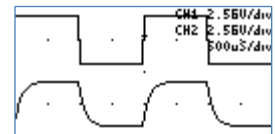

Figure 58: RC Measurements
- 5) The display should look similar to figure 58.